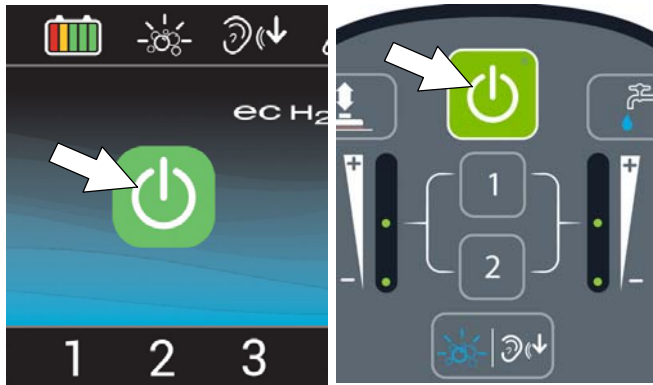

FIG. 85
- Press the 1-STEP button to activate the scrub function (Figure 85). The scrub head will lower to floor.